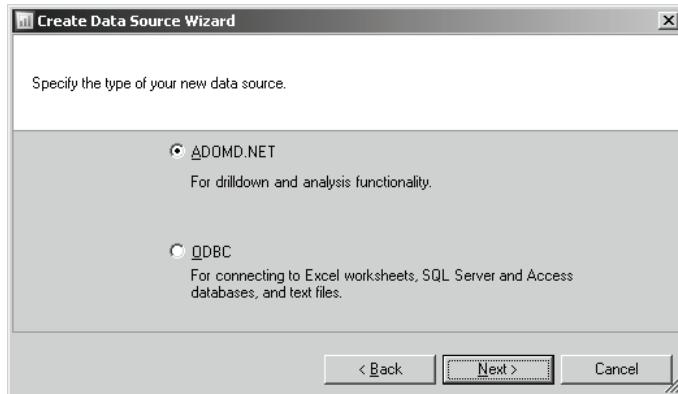

Figure 19.28 Choose the ADOMD.NET option when using UDM as a data source.
3. As noted, the Scorecard Manager supports multi-dimensional and ODBC data sources. Since we will be using a KPI that already exists in the SOS OLAP UDM, accept the default ADOMD.NET option in the *Specify the type of your data source* step (Figure 19.28).